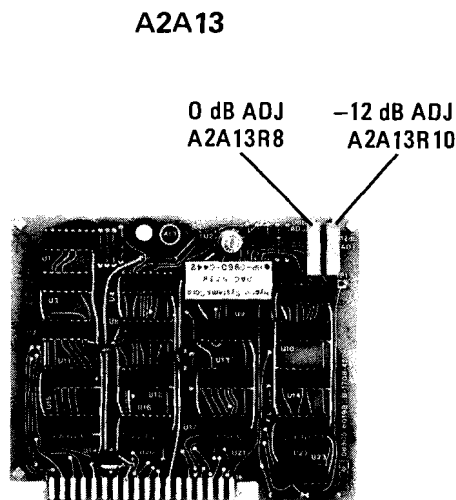

Figure A5-48. A2A13 Switch Register Storage Vernier Adjustment Locations
- f. Adjust " -12 dBm Adj" control A2A13R10 (see Figure A5-48) for -32 dBm ± 1 dB on Channel 1 digital readout.
- h. Adjust " 0 dBm Adj" control A2A13R8 (see Figure A5-48) for -20 dBm ± 1 dB on Channel 1 digital readout.
- b. Connect equipment as shown in Figure A5-48 with the RF output connected directly to Channel R Input.
- d. Program Frequency marker (FC) to left edge of CRT trace: